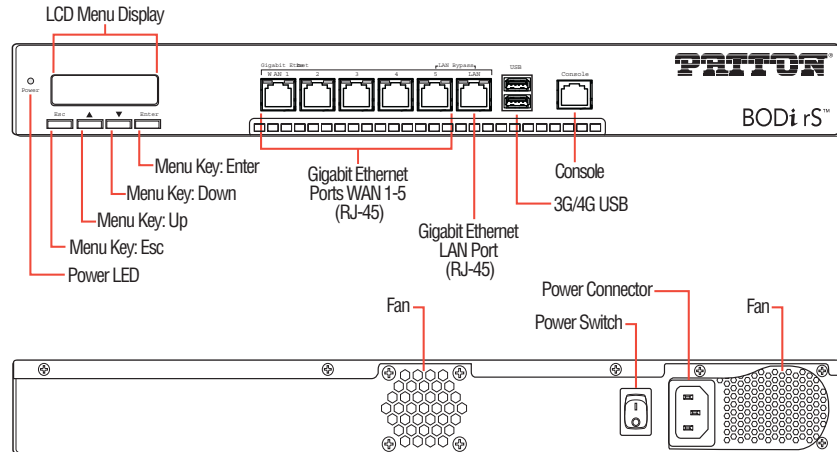

Figure 1. BODi rS BD1000 interfaces
1. Connect one RJ45 end of an Ethernet cable to the LAN port (see Figure 1).
1. Connect one RJ45 end of an Ethernet cable to WAN port 1 (see Figure 1).
1. Insert the female end of the AC power cord into the power connector (see Figure 1 on page 4).
3. Set the power switch (see Figure 1 on page 4) to | (on).